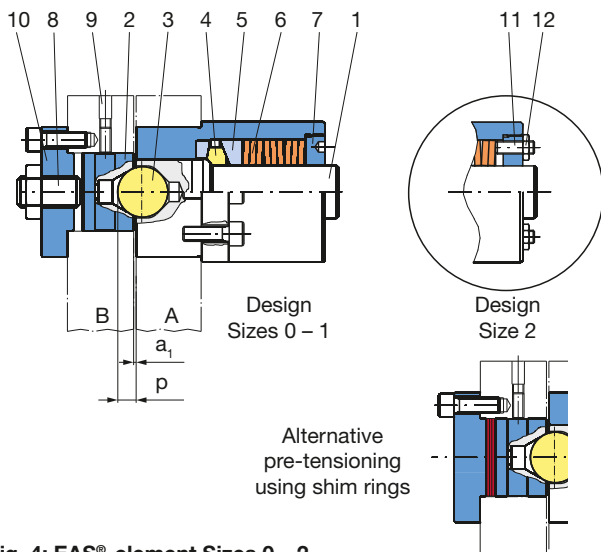
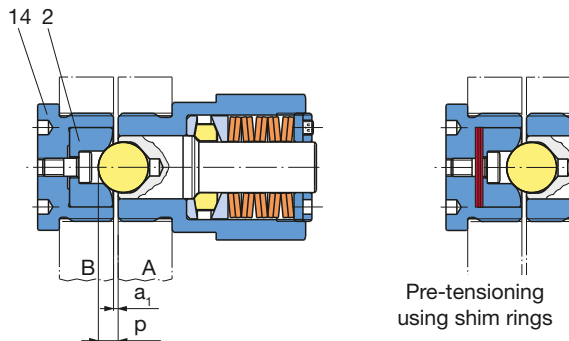

Fig. 4: EAS®-element Sizes 0 – 2
Fig. 5: EAS®-element Sizes 02 – 01
- ❑ Grease the thrust piece 2 (Fig. 4) or the adaptor bushing 14 (Fig. 5) well (Please use: grease NLGI class 2 with a basic oil viscosity of 220 mm²/s at 40 °C, e.g. Mobilgrease HP222) and insert in or screw onto flange B. The set screw 9 must be removed.
The limit torque for overload on the clutch is adjusted by changing the cup spring pre-tension of each element. For Sizes 02 – 1, adjustment is carried out via the adjusting nut 7, for Size 2 via 4 set screws 11 (Fig. 4). All 4 set screws must be evenly adjusted and countered. During torque adjustment, it is essential that all elements on the clutch are adjusted evenly.